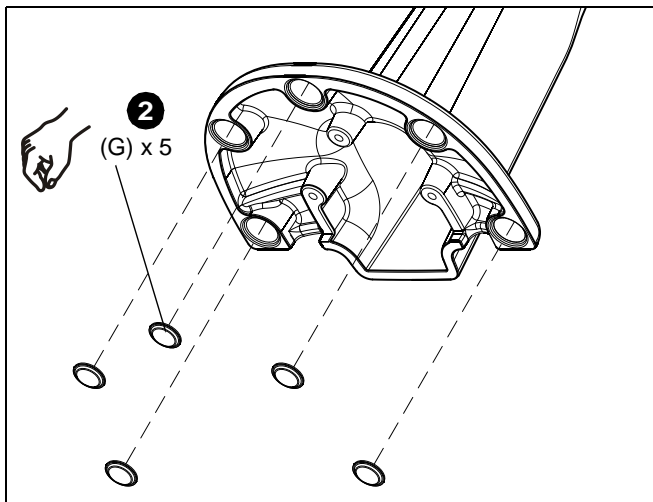

Figure 2
2. Attach five rubber bumpers (G) to desk clamp bottom. (See Figure 2)